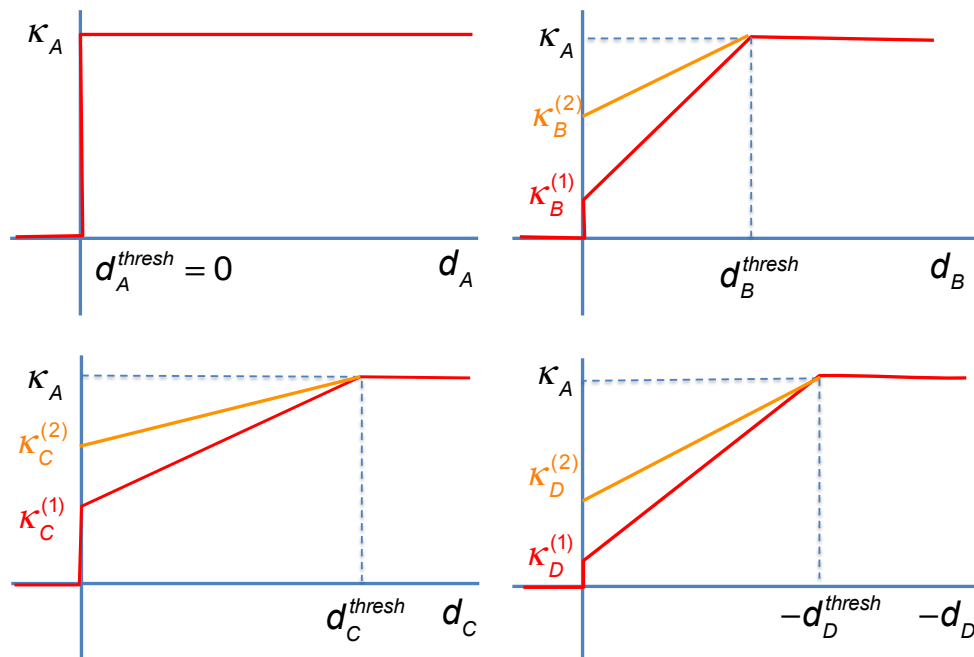

Fig. 3: Distance-based virtual fixture gains (explained below)
9. (15 points) The cooperative control scheme described in Question 8 provides more or less unconstrained motion of the robot, subject only to joint constraints. However, we also want to constrain the tool motion with respect to anatomic structures A, B, and C. Fig. 3 describes a set of admittance gain parameters associated with anatomic structures A, B, C, and D. Here, κ_X is a 3x3 admittance matrix associated with anatomic structure X and $d_X(t)$ is the distance of $\vec{\mathbf{p}}_{RT}(t)$ of the tool tip from structure X. Further, $\|\mathbf{K}^{vel} \vec{\phi}_W\| = \kappa_A \|\vec{\phi}_W\|$ for unconstrained admittance control. The desired behavior is that the motion $\dot{\vec{\mathbf{p}}}_{CT}(t)$ should be constrained is as follows: